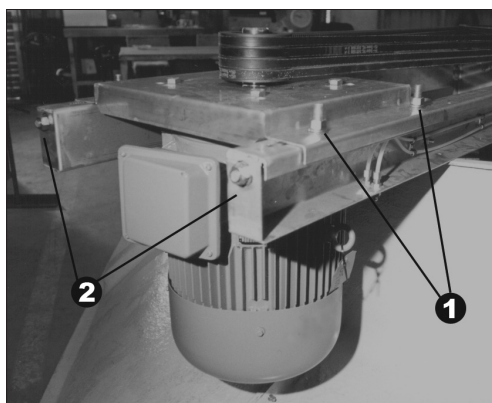

Figure 2. Adjustable Motor Base (cover removed)
- Prior to seasonal start-up, lubricate the motor base adjusting screw (see Figure 2) and the fan shaft bearings. At initial start-up, no bearing lubrication is required since the bearings are factory lubricated prior to shipment.